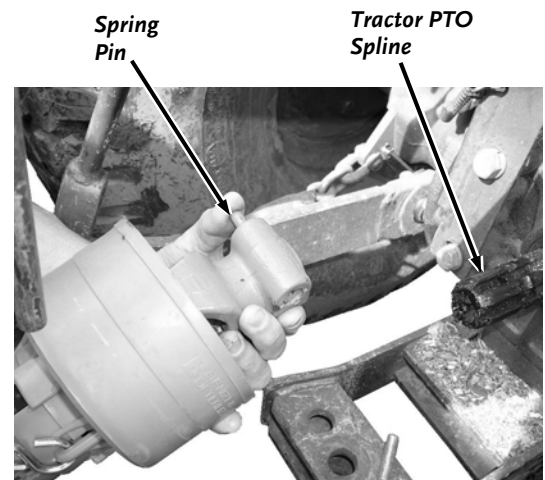

Figure 24
4. Push in the PTO Shaft Spring Pin and slide the PTO Shaft onto the Tractor Spline (**Figure 24**).